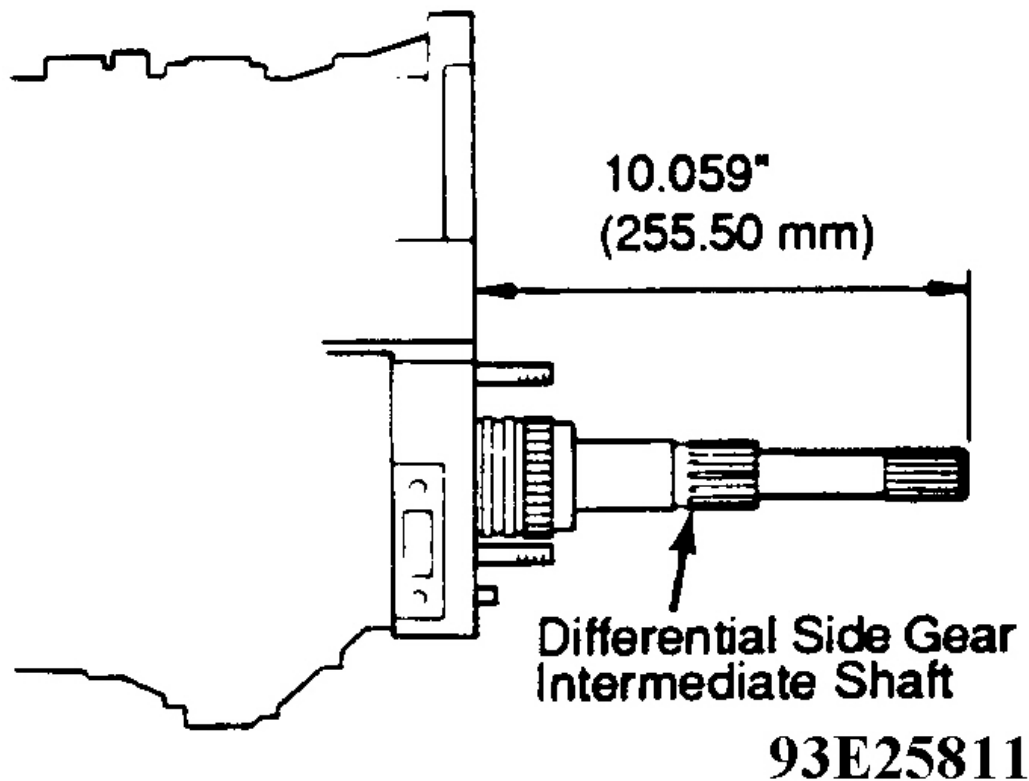

Fig. 74: Intermediate Shaft Measuring Protrusion Length
36. On A-540H transaxle, install differential side gear intermediate shaft. Keeping intermediate shaft on pinion shaft of differential, measure protrusion length. Protrusion length should be 10.059" (255.50 mm). See **Fig. 74** . Install apply gasket on differential carrier cover.